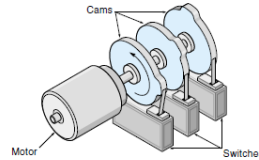

Figure 9.19 An electro-mechanical sequencer.
- Traditionally, electromechanical sequencers (Figure 9.19) were used in this type of application (where a drum rotates slowly, and cams on the drum activate switches).